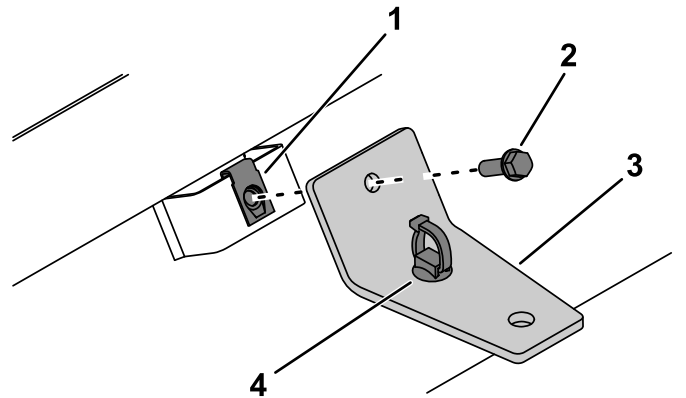

Figure 5
2. Secure the rear mount to the roof mount bracket using the hex-head bolt (1/4 x 7/8 inch) and speed nut (Figure 5).
3. Install the tie clip to the rear mount (Figure 5).